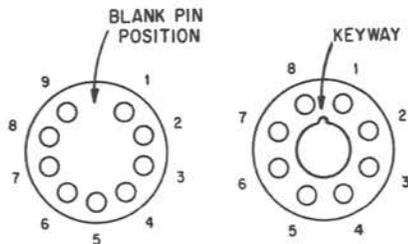

Fig. 4 - Tube Socket Pin Numbering System
3.03 If the tests mentioned above fail to reveal the trouble, it will be necessary to measure the operating voltages in the amplifier. The values of voltages on the various elements of the electron tubes may be measured at the tube sockets on the underside of the chassis. The voltages should be measured between the point indicated and the amplifier circuit ground (terminal 6). Table 2 lists the voltages to be found at the various circuit points when the amplifier is operating normally and without input signal applied. Fig. 4 shows the pin numbering arrangements for electron tube sockets as viewed from the wiring side.